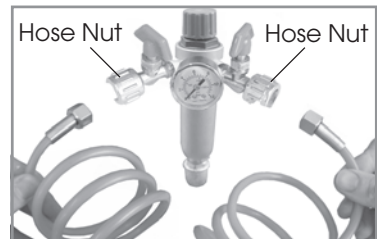

Figure 5
4. Attach the air hose to one of the outlet taps using the hose nuts. See figure 5.